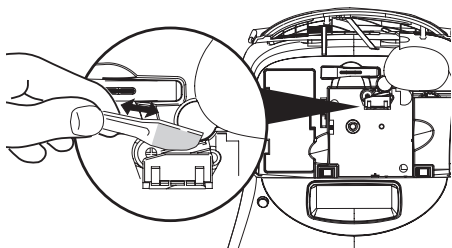

Figure 11
- ◆ Clean the print head using the cleaning tool located inside the label compartment lid. See Figure 11.